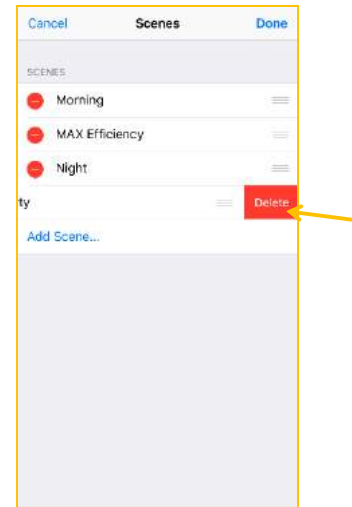

Figure 49
- ✔ Click **Delete** (Fig. 49)